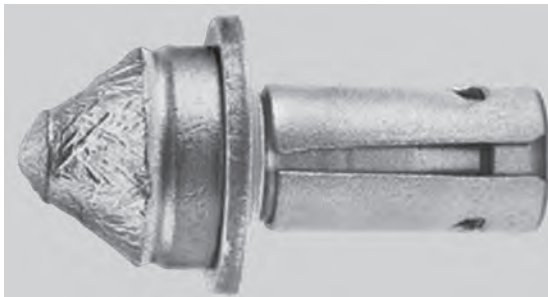
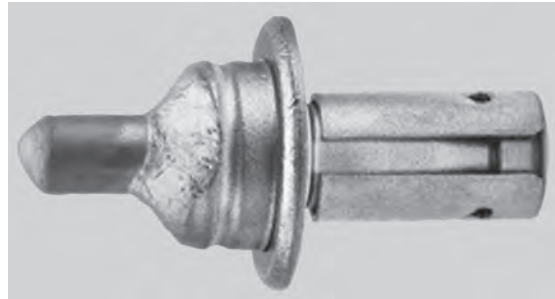

Figure 18
Figure 19
Figure 18 shows features of an ideally worn tooth that needs replaced.
Figure 19 shows a tooth that has worked on soft materials and needs replaced.
**NOTE:** The teeth shown in Figure 18, Figure 19, and Figure 20 are standard models. Similar concepts apply to all teeth models.